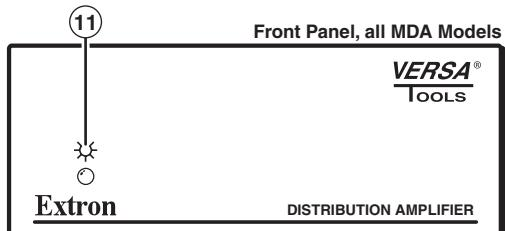

Figure 13 — MDA 3 Series front panel (all models)
- (11) Power LED (figure 13) — When lit, this LED indicates power is applied to the MDA.